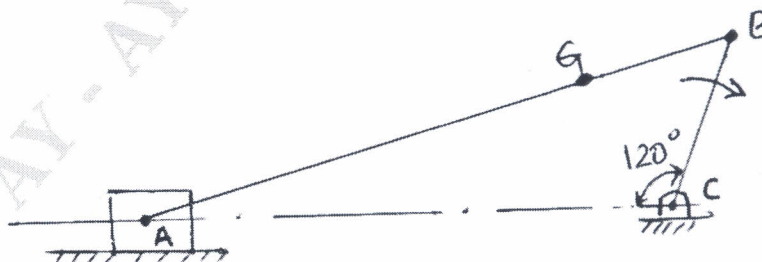

Fig.Q3
- 3 An engine mechanism shown in Fig.Q3. The crank  $CB = 100$  mm and the connecting rod  $BA = 300$  mm with centre of gravity  $G$ , 100 mm from  $B$ . In the position shown, the crank shaft has a speed of  $75$  rad/s and an angular acceleration of  $1200$  rad/s2. Find : i) Velocity of  $G$  and angular velocity of  $AB$